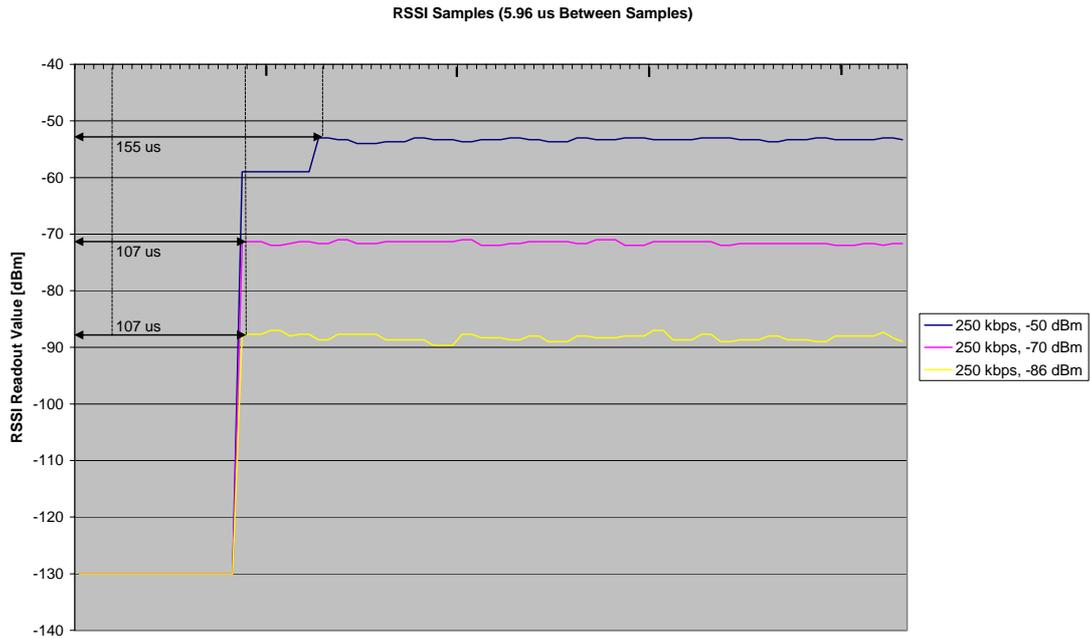

Figure 3. RSSI Value vs. Time (250 kBaud)
For stronger signals, it will take longer time before one can read a valid RSSI value since the AGC requires longer time to set the gain. Assume an application where one wants to put the radio in RX for a minimum amount of time before reading the `RSSI` register. One of the challenges is that the time taken before a valid RSSI value can be read varies with signal strength, and the signal strength is unknown. In this case one should do a set of measurements where a known strong signal is input to the receiver, and the `RSSI` register is read continuously. One should then measure the time from the radio enters RX state until a valid RSSI value is available. Figure 1, Figure 2, and Figure 3 shows 3 different signals strengths (-50 dBm, -70 dBm, and -86 dBm) at 3 different data rates (2.4 kBaud, 10 kBaud, and 250 kBaud) and the time it takes before a valid value can be read from the `RSSI` register. CC2500 was used for this test and register settings were obtained from SmartRF[®] Studio.
3. Start reading the `RSSI` register repeatedly and store the values in a buffer (for the plots in Figure 1, Figure 2, and Figure 3, the `RSSI` register was read 250 times, with 5.96 us between readings)